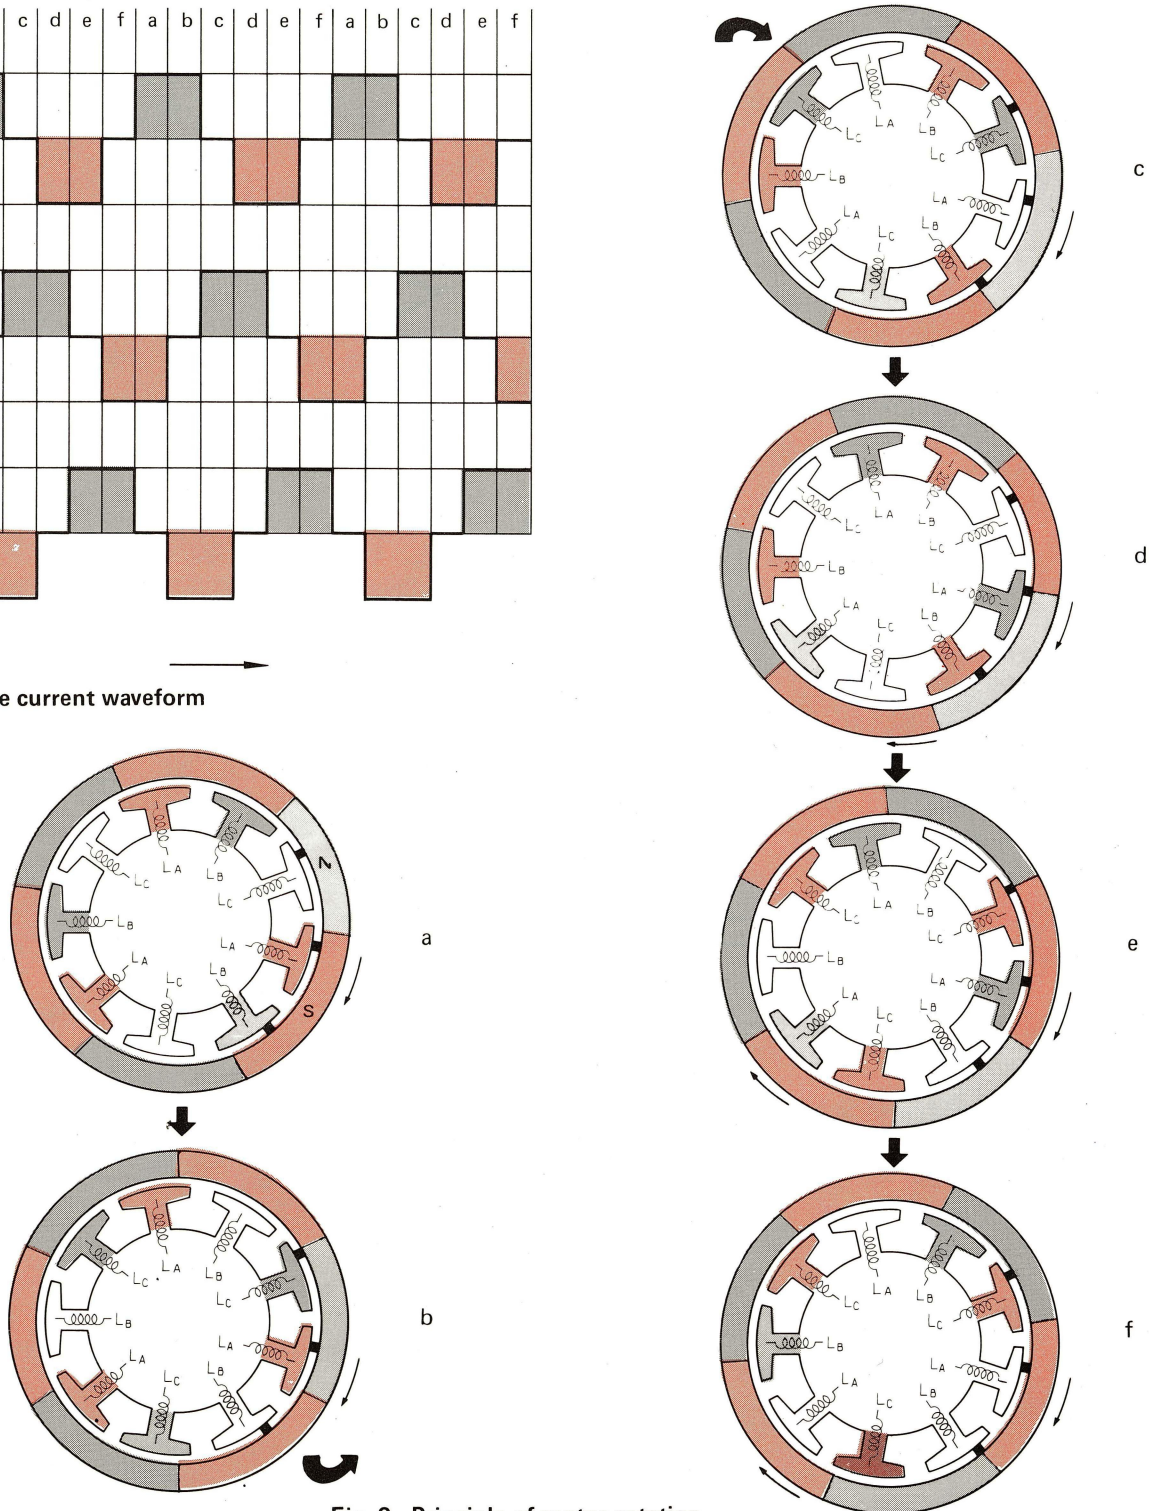

Fig. 9 Principle of motor rotation
- a) Switching signals obtained from the three Hall elements and having been processed in the Position Signal Synthesizer Circuit, applied to terminals a, b and c in Fig. 9, in order to switch Q2 ~ Q7.